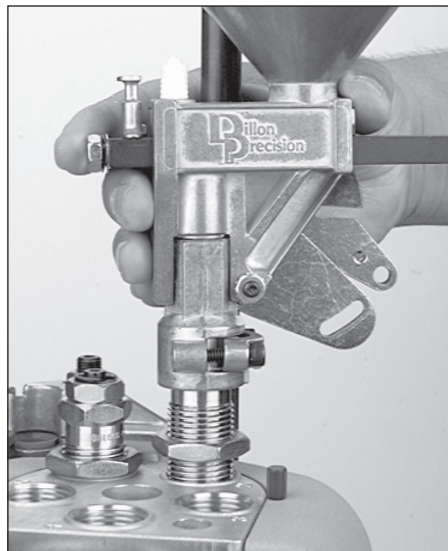

FIG 92
5. Place the powder measure onto the powder die FIG 92. Turn down the two clamp screws until they are snug. Then loosen them slightly. The measure should move freely atop the die.